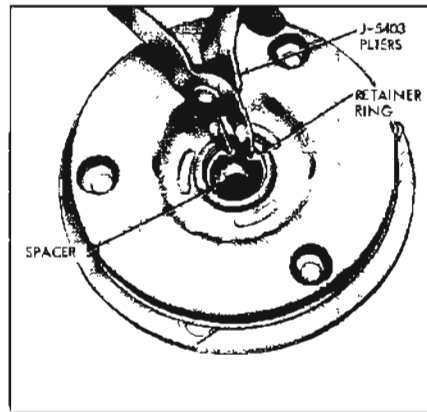

Figure 11-100—Removing Clutch Drive Plate Retainer Ring
4. Remove clutch drive plate assembly retainer ring, using J-5403 No. 21 Truarc Pliers. See Figure 11-100. Remove spacer from inside hub of clutch drive plate.